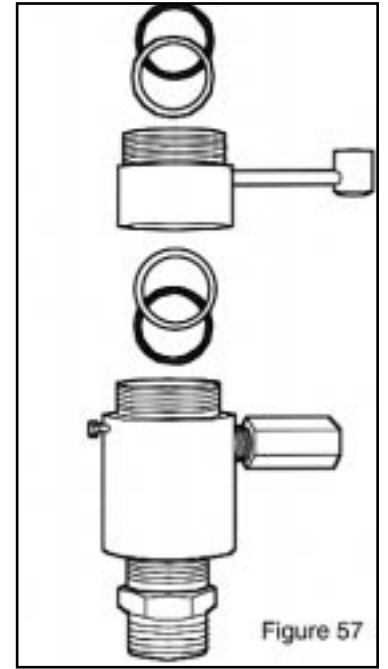

Figure 57
5. Remove the seals from the fluid cylinder and oil chamber. (fig.57)